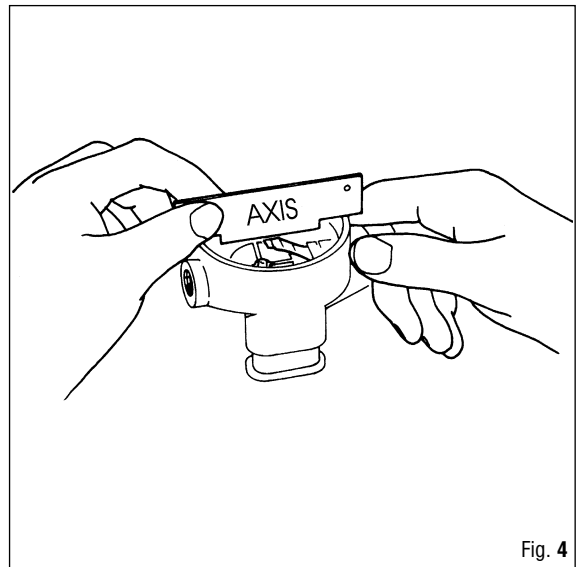

Fig. 4
- A.1 Rest the ends of the gauge (code 46106230) on the edge of the 2nd stage case (Fig. 4).
- A.2 Working through the hole in the second stage case, use the wrench (B-12) to lock down or back off nut (33) in order to adjust the demand lever (35).